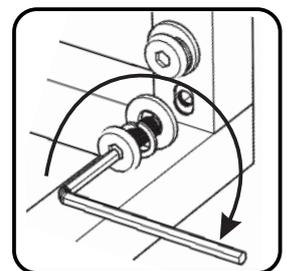

Figure 2
Attach unit and Rail (H) to Side Frame (B) with Flat Washers, Spring Washers and Head Cap Bolts, tightening bolts only halfway. (See Figure 2)